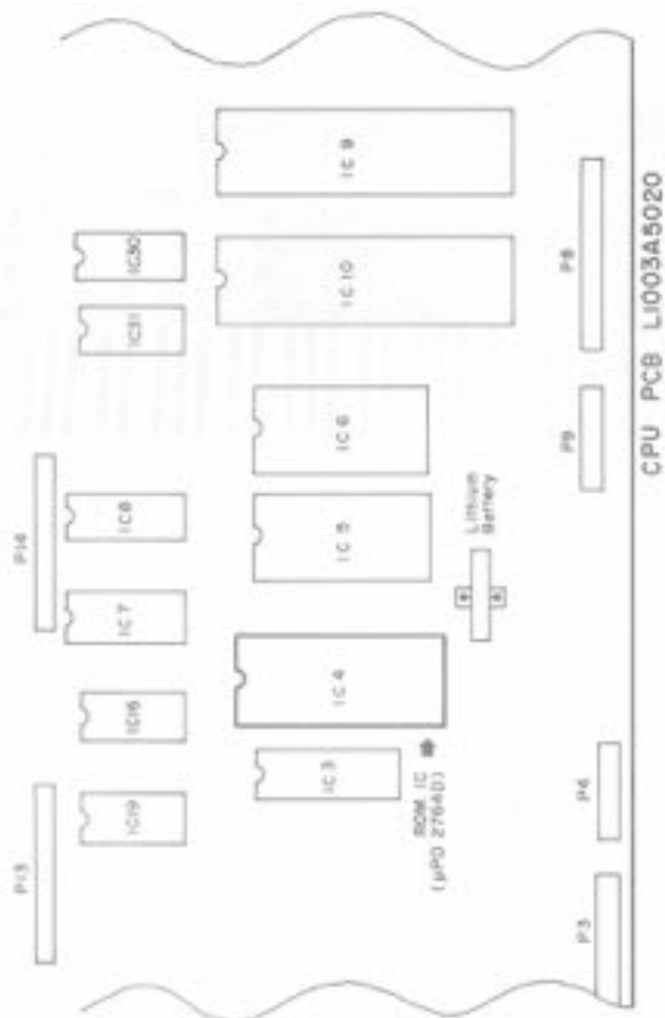

Fig. 6-2
5) Location of the ICs (Refer to Figs. 6-2 & 7-1).